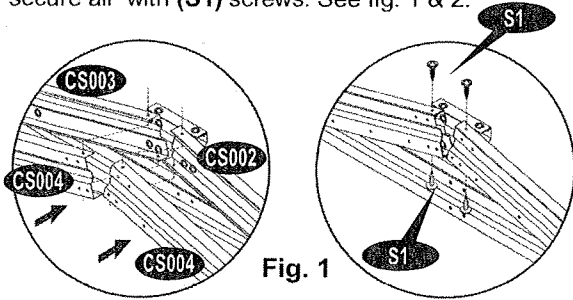

Fig. 1
8. Fix top chord center cover (CS004) to top chord center left and right (CS002 & CS003) and secure all with (S1) screws. See fig. 1 & 2.